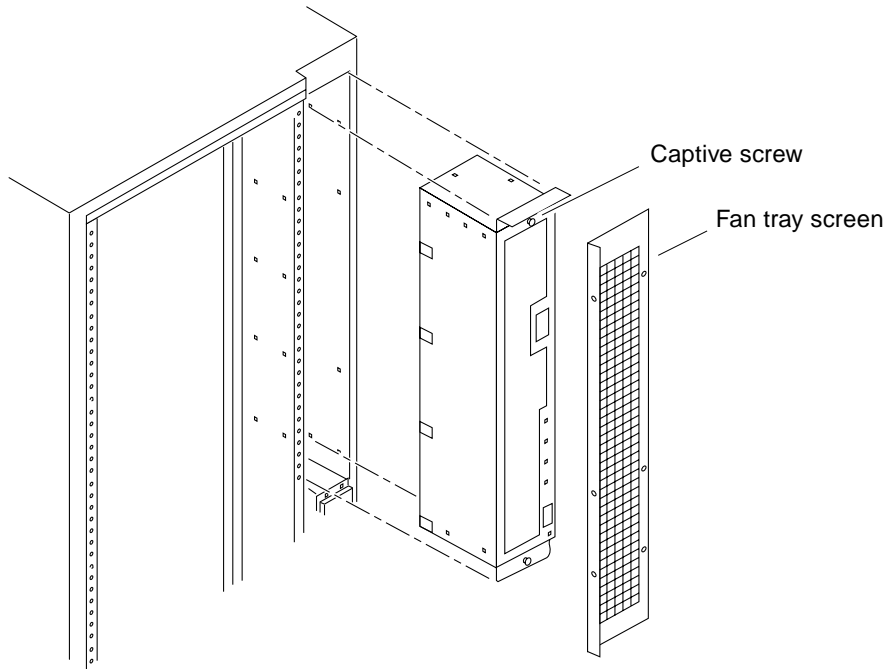

FIGURE 4-1 Removing and Replacing the Rack Fan Tray Assembly
1. **Remove the fan tray screen (FIGURE 4-1) from the rear of the chassis.**
- 3. Loosen the captive screws (FIGURE 4-1) at the top and bottom of the fan tray.**